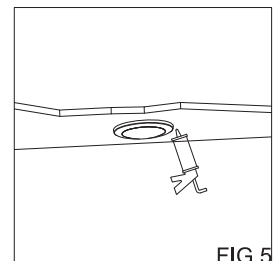

FIG.5
6. Place the Lens back and turn it clockwise to fix. (FIG.5)
Place the Lens back and turn it clockwise to fix.(FIG.5)